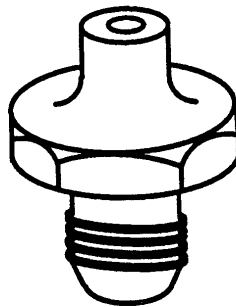

FIGURE 5 - NOSEPIECE
- 4.2.4 Nosepieces (e.g., TS.414.04.12, Cherry 728A9-3 or Cherry 728-33). See Figure 5 for a general description of an installation nosepiece.